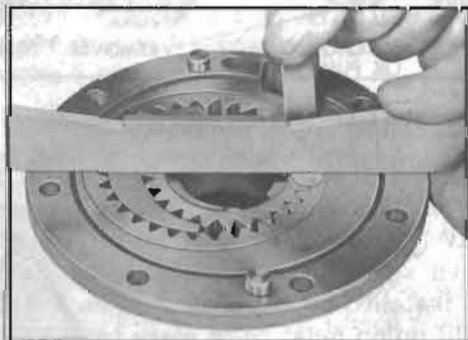

Figure 5-66—Checking Side Clearance of Gears in Pump Body
6. Place a straight edge on face of pump body and check side clearance of gears with feeler gauge. See figure 5-66. Clearance should be .001" to .0025" on front pump and .001" to .002" on rear pump.